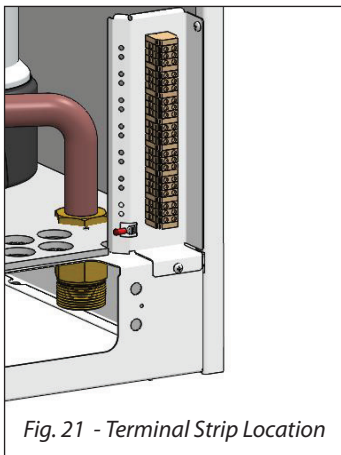

Fig. 21 - Terminal Strip Location
The low voltage terminals are located at the bottom of the CTRLMax control module. The line voltage terminals are located in the lower right corner as shown in Fig. 21 below.
1. Connect a dedicated 120 VAC/15A service to the line voltage terminals located internally in the lower right corner, as shown in *Fig. 21 below*.
2. Connect the CH circulator wiring to the line voltage terminals located internally in the lower right corner, as shown in *Fig. 21 on the left*. This circulator is typically used to supply heat to the central/space heating loop.
3. Connect the DHW circulator wiring to the line voltage terminals located internally in the lower right corner, as shown in *Fig. 21 on the left*. This circulator is typically used to supply heat to an indirect hot water heater.
4. Connect the P3 circulator wiring to the line voltage terminals located internally in the lower right corner, as shown in *Fig. 21 on the left*. This circulator is typically used to circulate water through the PRESTIGE Solo in primary/secondary piped systems.
5. Connect the P4 circulator wiring to the line voltage terminals located internally in the lower right corner, as shown in *Fig. 21 on the left*. This circulator is typically used as a dedicated circulator to a second space heating zone.
1. Connect the external monitoring device to the line voltage terminals located internally in the lower right corner, as shown in *Fig. 21 on page 32*.